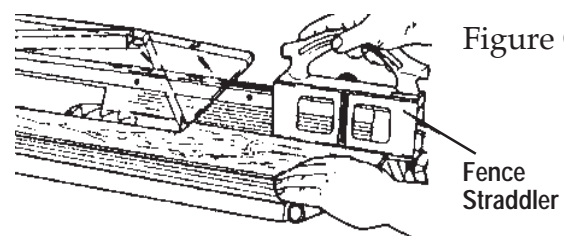

Figure C-9
5. When ripping stock less than 1-1/2" wide, use the optional fence straddler to finish the cut. See Figure C-9.